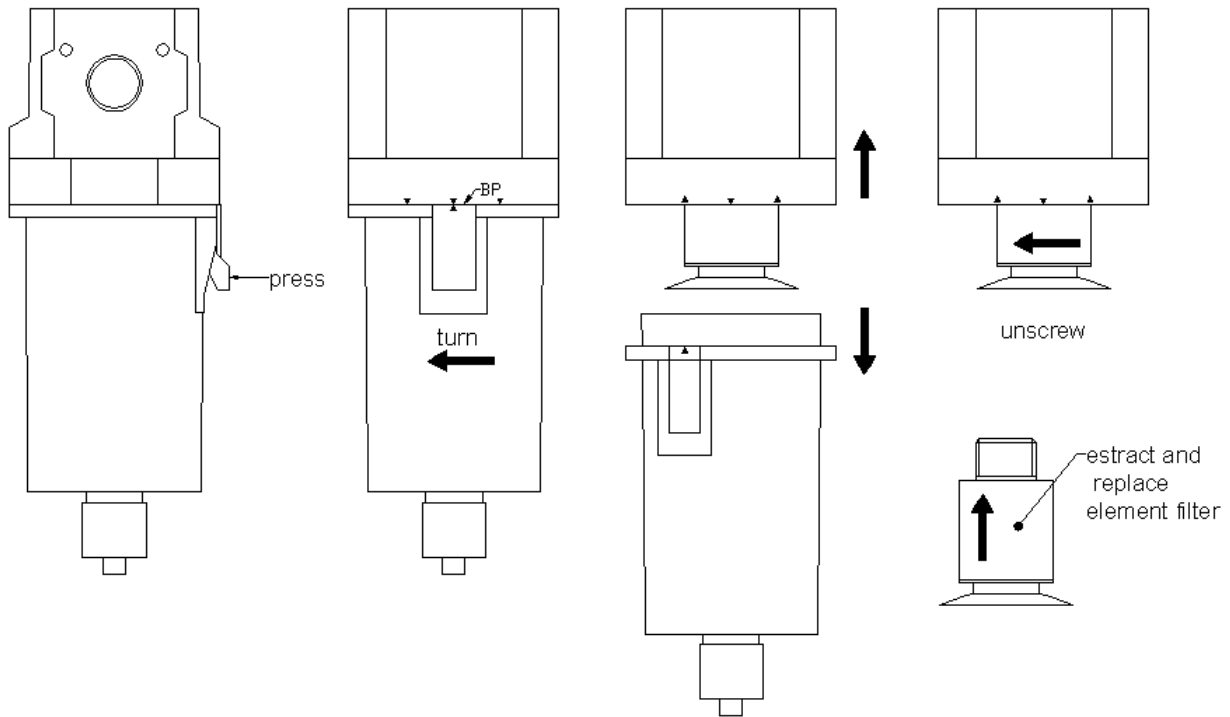

fig. 1: Pre-filter disassembling for element filter replacement.
- ✓ Remove the filter bowl (fig. 1, pos.1) pressing on the lever and turning the bowl counter-clockwise until the arrow are aligned;
- ✓ Unscrew the filter element base and remove element(fig.1, pos 3) .